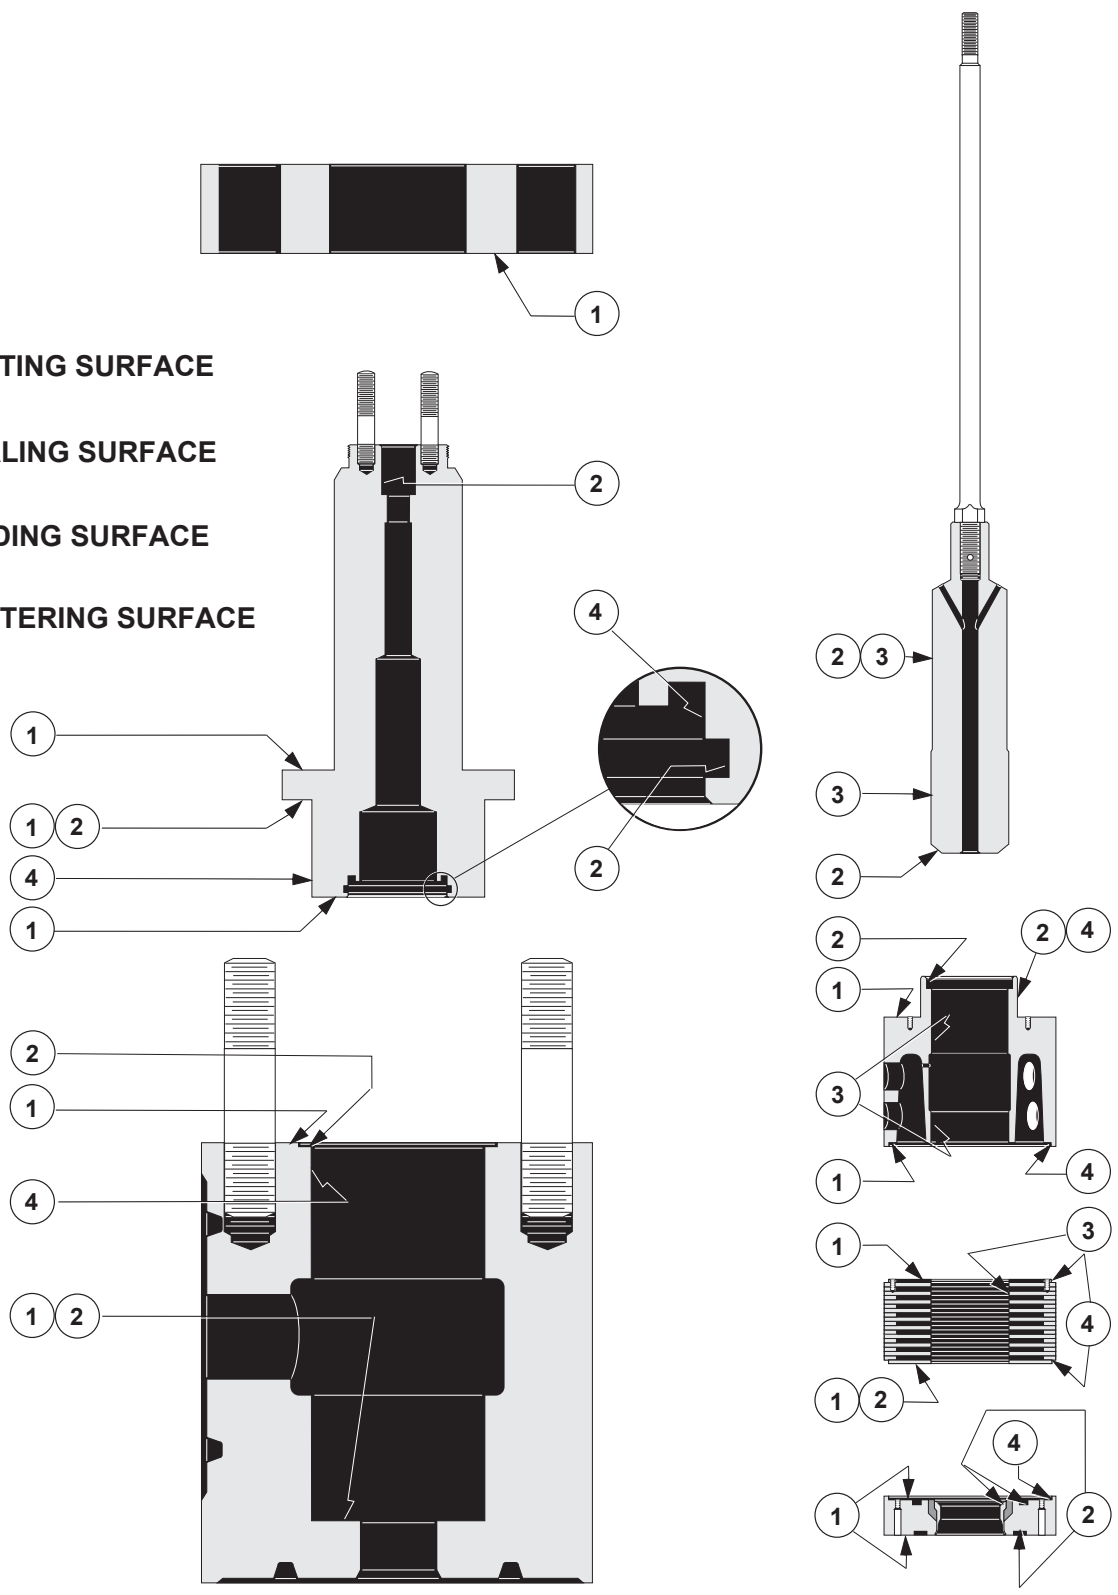

Figure 7
- Refer to Figure 7 and insure that all surfaces indicated are clean and free of dirt, scale or burrs.
- Apply several spots of a sealant or lubricant to one side of lower seat ring gasket (22) and stick the gasket in the lower groove of the seat ring (21).